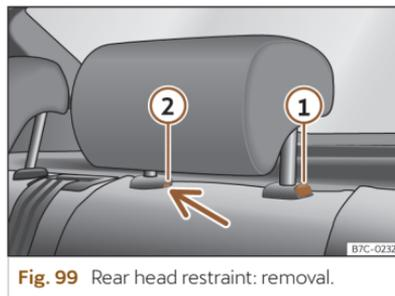

Fig. 99 Rear head restraint: removal.
- Press button >>> **Fig. 99** ①, while simultaneously pressing on the safety hole ② with a flat screwdriver a maximum of 5 mm wide, and remove the headrest.